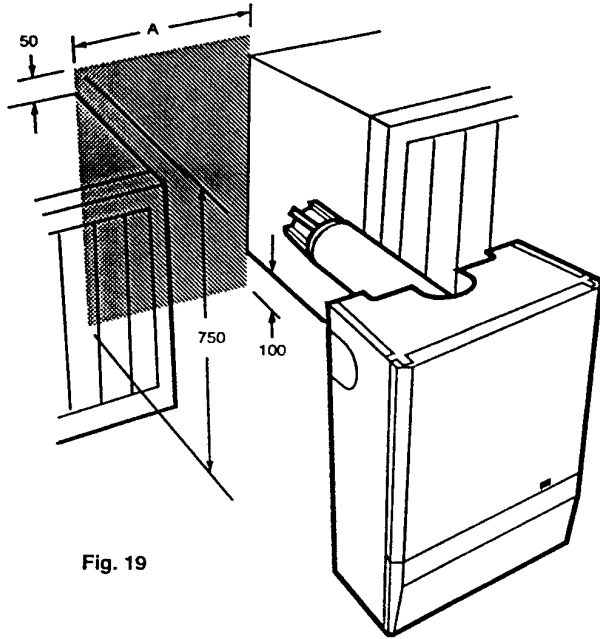

Fig. 19
**5.3 Position the Boiler (Fig. 19)**